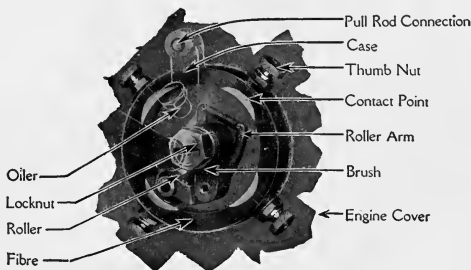

FIG. 142.—The Ford timer.
98. Timers.—Figure 142 shows the timer used on the Ford engine. The inside or rotating part is fastened to and rotates with the cam shaft. When the roller comes into contact with one of the terminals on the housing, the circuit for that coil is closed and a current is caused to flow in the primary circuit, causing a spark in the secondary circuit. The housing does not turn with the cam shaft, but can be shifted back and forth, either advancing or retarding the spark. The timer is always placed in the primary circuit.